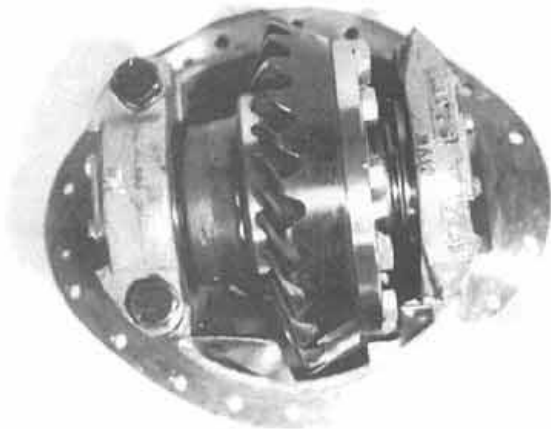

Figure 20
Step 23 Remove the lock plate from each adjuster nut and mark the nut and housing with a center punch or chisel for position. (see figure 20)